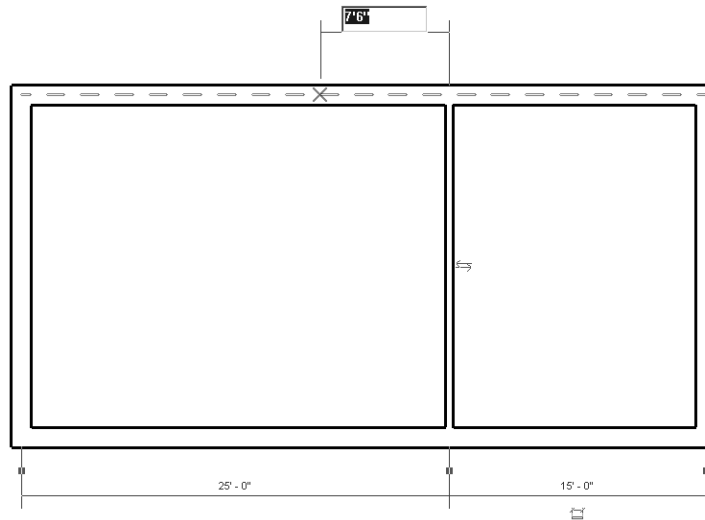

Figure 3-54 Specifying the starting point of the second interior wall
1. To sketch the second interior wall, move the cursor to the upper endpoint of the interior wall you just created and then move the cursor horizontally toward the left. Enter **7'6"**, when the temporary dimension and the intersection object snap appears, as shown in Figure 3-54. Now, press ENTER; the start of the second interior wall segment is specified on the upper horizontal exterior wall.